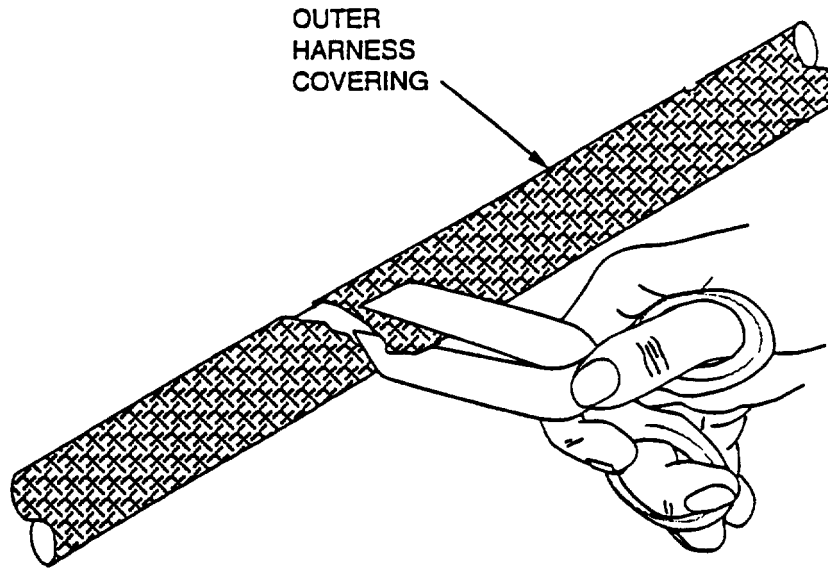

Figure 45. Overbraid Trimming
j. Cut lacing cord securing outer harness covering, milk both ends as close together as possible. Using scissors trim frayed areas to allow for smooth repair (Figure 45).